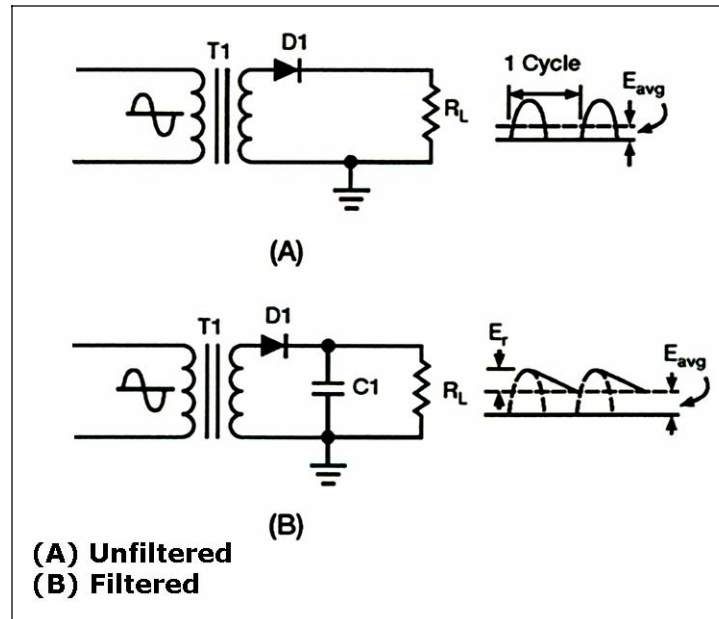

Figure 4-16. Half-wave Rectifier With and Without Filtering
4-40. To help understand the effect that filtering has on E_{avg} , a comparison of a rectifier circuit with a filter and one without a filter is shown in Figure 4-16, views (A) and (B). The output waveforms in Figure 4-16 represent the unfiltered and filtered outputs of the half-wave rectifier circuit. Current pulses flow through the load resistance (R_L) each time a diode conducts. The dashed line indicates the average value of output voltage. For the half-wave rectifier, E_{avg} is less than half (or approximately 0.318) of the peak output voltage. This value is still much less than that of the applied voltage. With no capacitor connected across the output of the rectifier circuit, the waveform in view (A) has a large pulsating component (ripple) compared with the average or DC component. When a capacitor is connected across the output (view B), the average value of output voltage (E_{avg}) is increased due to the filtering action of capacitor C1. A comparison of the waveforms (see Figure 4-16) shows that the addition of C1 to the circuit results in an increase in the average of the output voltage (E_{avg}) and a reduction in the amplitude of the ripple component (E_r), which is normally present across the load resistance.